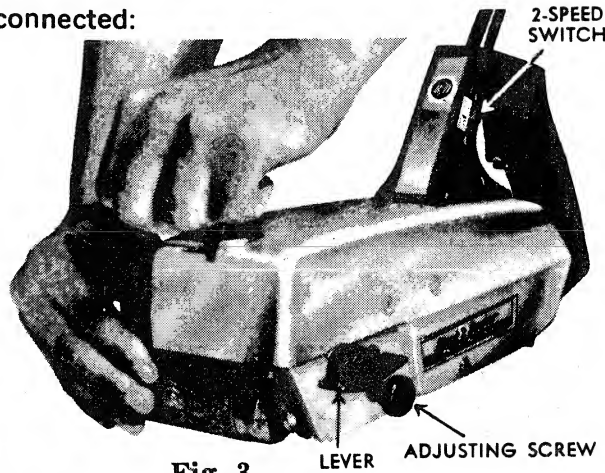

Fig. 3
When you receive your unit, you will find a sanding belt already in operating position. To prevent the belt from striking the wear plate when the unit is initially turned on, turn the adjusting screw (See Figure 3) $\frac{1}{2}$ turn clockwise. Turn the unit on and, by using the adjustment screw, adjust belt flush to edge of shoe. A minor belt adjustment may still have to be made while sanding.
1. Lift lever (fig. 3) to retract front pulley.